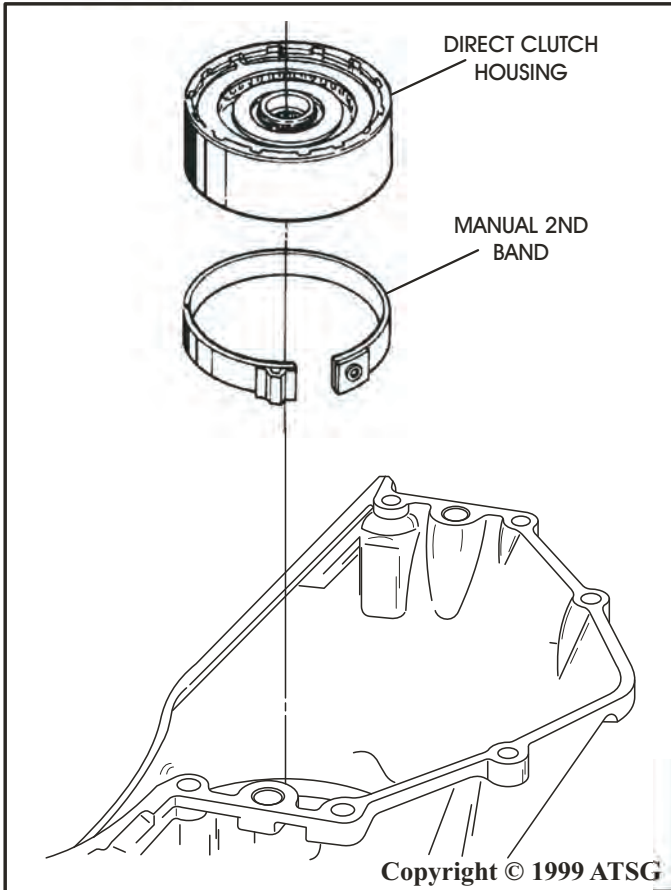

Figure 110
14. Install the manual 2nd band assembly into the case, ensuring that it is engaged on the lug in the case (See Figure 110).
15. Install the completed direct clutch housing assembly into the case by rotating to engage sprag outer race into teeth of the intermediate lined plates, until fully seated (See Figure 110).